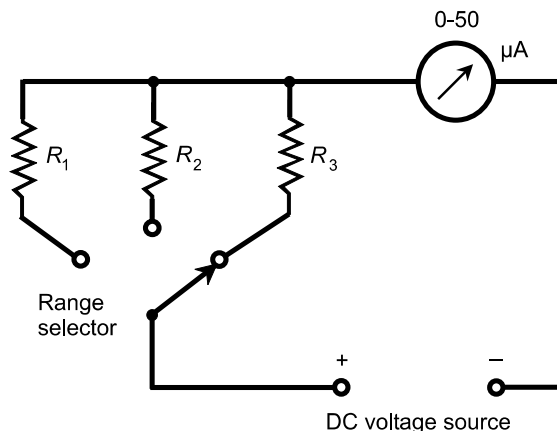

Fig. Exam-4. Illustration for Final Exam Questions 30 through 32.
30. What sort of device is illustrated by Fig. Exam-4?
31. Suppose a 10-V battery is connected to the terminals in Fig. Exam-4 marked “DC voltage source.” Suppose the microammeter is deflected to full scale by this voltage ($50\mu\text{A}$). What is the value of R_3 , through which current flows?
32. Suppose a source of 0.05 V AC is connected to the terminals in Fig. Exam-4 marked “DC voltage source.” What is the meter indication?